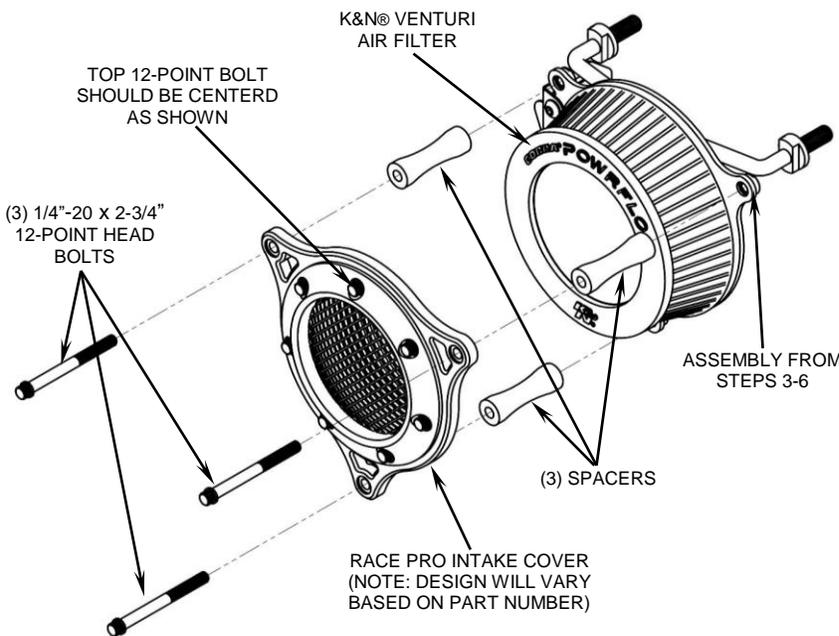

FIGURE 2
11. Place the RACE PRO intake cover over the air filter so that there is a 12-point bolt centered between the top two mounting holes. See **FIGURE 2**.
12. Insert the 2-3/4" long 12-point bolts through the 3 outer holes in the intake cover and through the spacers to the base mounting plate threaded holes. See **FIGURE 2**. Snug the (3) bolts evenly until the intake cover tightens down onto the spacers. Then tighten the bolts securely.